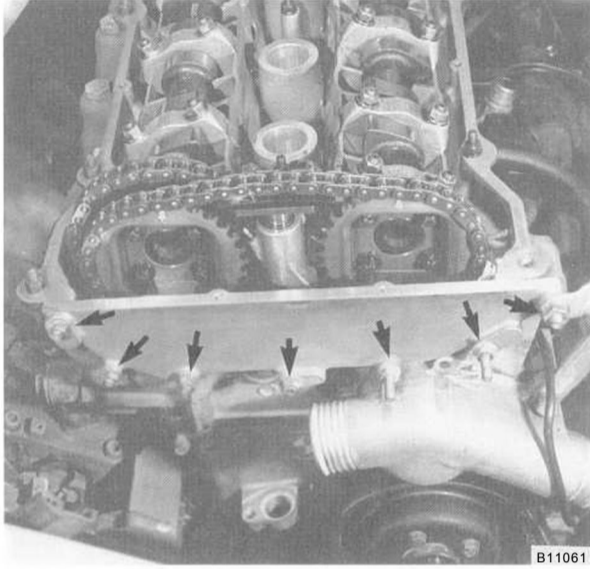

Fig. 21. Timing chain cover mounting nuts (arrows) on 1991 and 1992 cars.
26. On 1991 and 1992 cars, remove the timing chain cover from the front of the cylinder head. See Fig. 21.